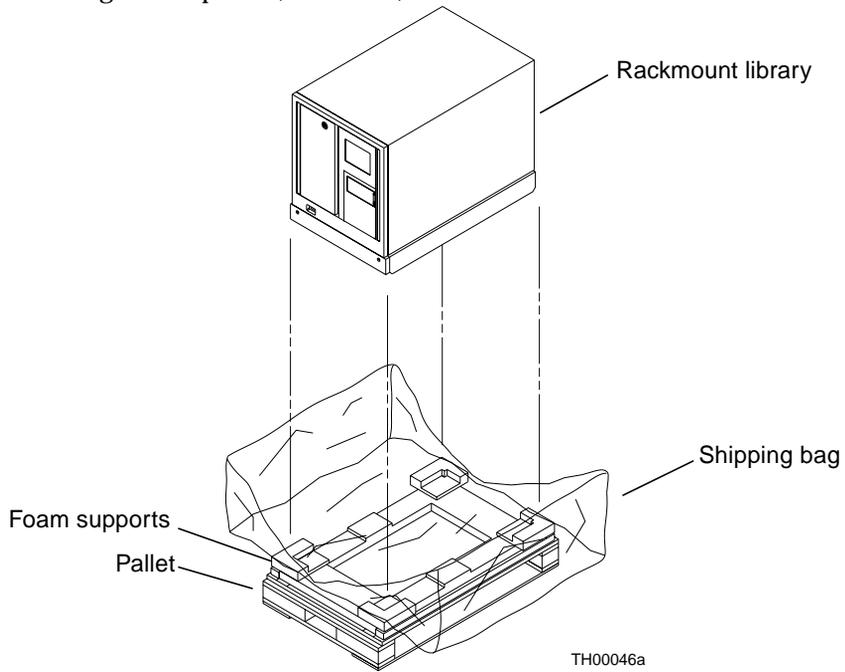

FIGURE B-6 Placing the Rackmount Library on the Pallet
- For the rackmount library, remove it from the slide assembly and lower it onto the bag on the pallet (FIGURE B-6).